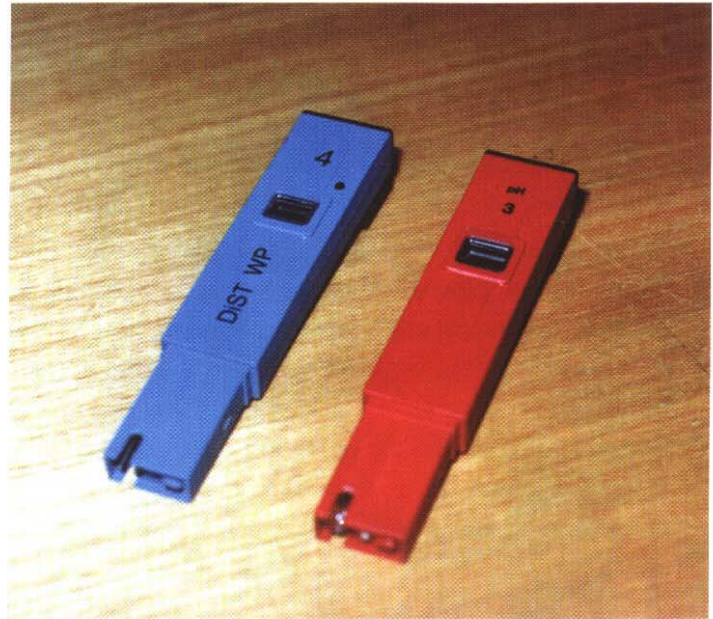

Figure 1. Electrical and pH conductivity meters suitable for use in the field
- **Acidity** and **Salinity** of a soil-water suspension can be easily and accurately measured in the field with small pocket-sized electronic pH and electrical conductivity meters. See Figure 1.